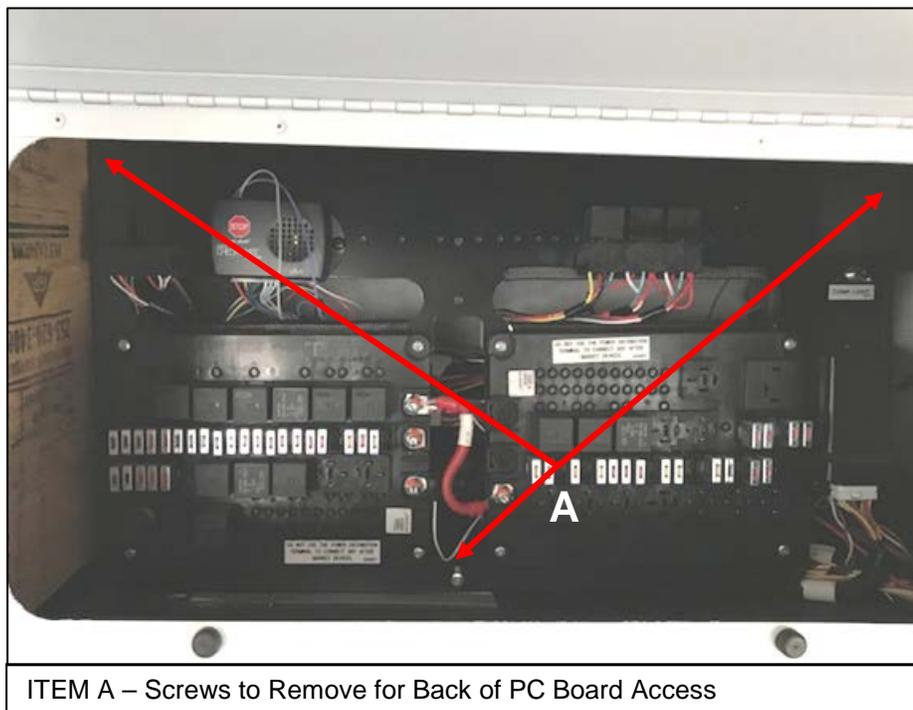

Figure 4: View of PC Boards
4. Open the PC circuit board cabinet (above the driver's seat) and prop the door open. See **Figure 4**.
5. Remove the three screws indicated in **Figure 4** and lay the PC board down.